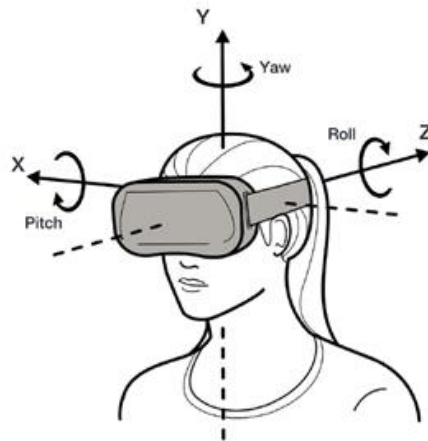
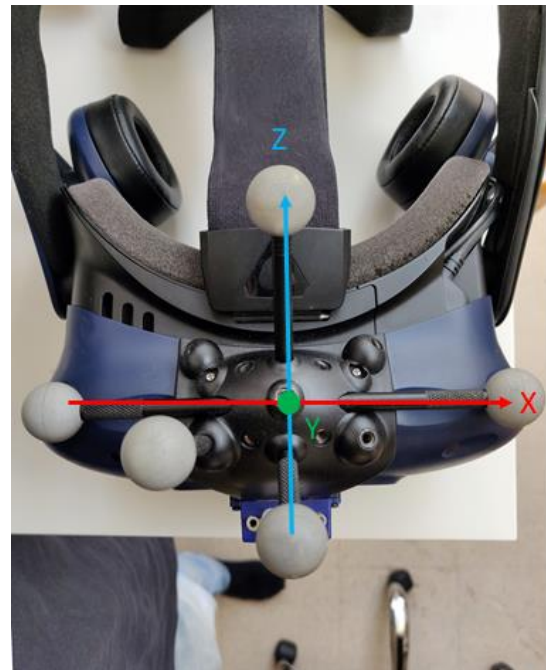
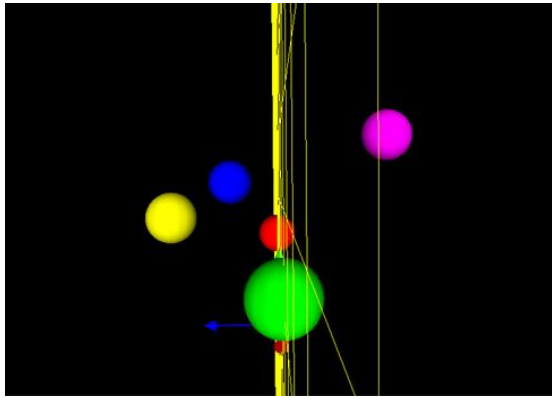
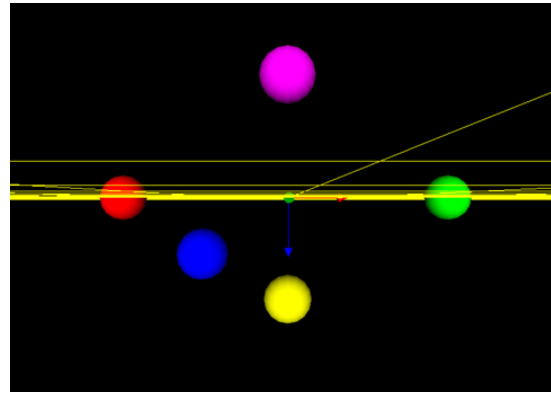

Figure 9 - OpenVR coordinate system alignment
Figure 11 - Example marker arrangement, top view.
Figure 14 - Correctly aligned body origin, side view along X-axis
Figure 15 - Correctly aligned body origin, top view along Y-axis
2. The rigid body in the optical tracking system software should be aligned to fit with the OpenVR alignment standard as shown below (Figure 9, Figure 10, Figure 11, Figure 12, Figure 13, Figure 14, Figure 15). The center (the position source) of the rigid body needs to be adjusted, so that it lies closely on the upper part of the nose, in the middle between the eyes